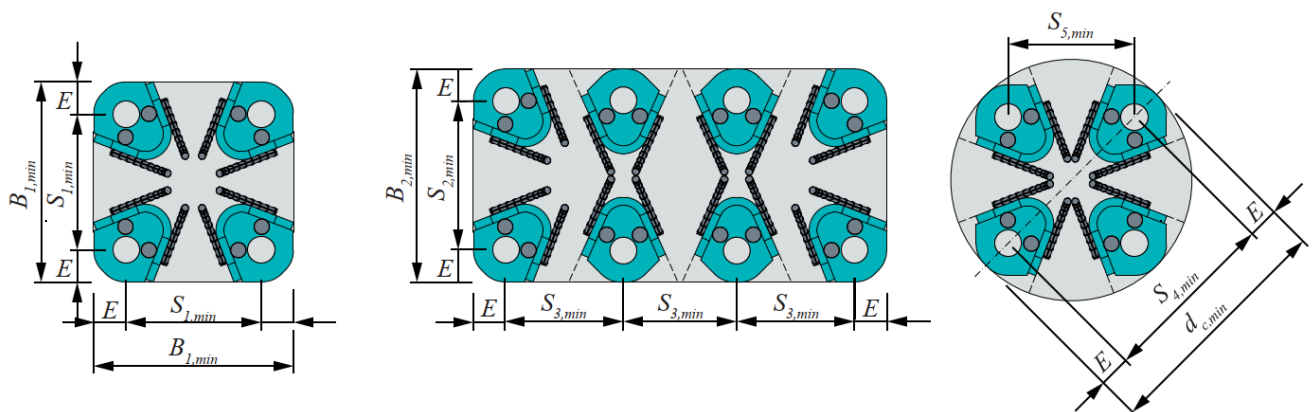

Figure B1. Examples of geometries and minimum spacings of HELKA® Column Shoes
- Examples of spacings and arrangements of HELKA® Column Shoes are given in Fig. B1 and Table B1.